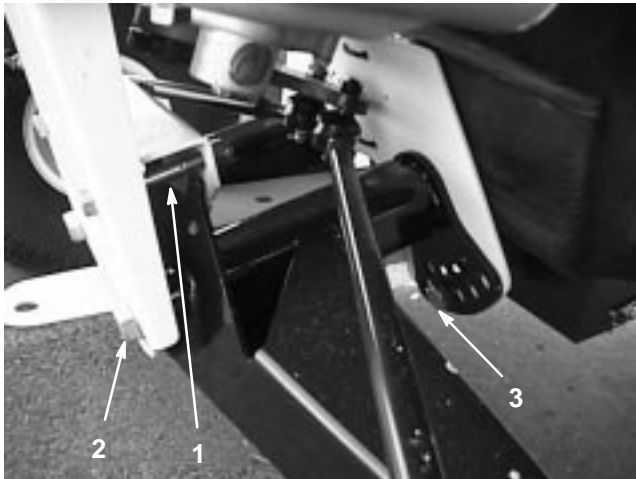

Figure 24
2. Remove the travel limiting bolt (Fig. 24).
3. Loosen the centering bolts in the front “A” frame (Fig. 24).
4. Remove the ride height adjustment bolt (Fig. 24).
5. Rotate the front “A” frame to the desired position (Fig. 24). The distance from the bottom side of the front hitch to the ground should be 9 to 9-3/4 in. (22.9 to 24.8 cm) with the tires inflated to 12 psi (83 kPa).
6. Replace the ride height adjustment bolt and the travel limiting bolt (Fig. 24).